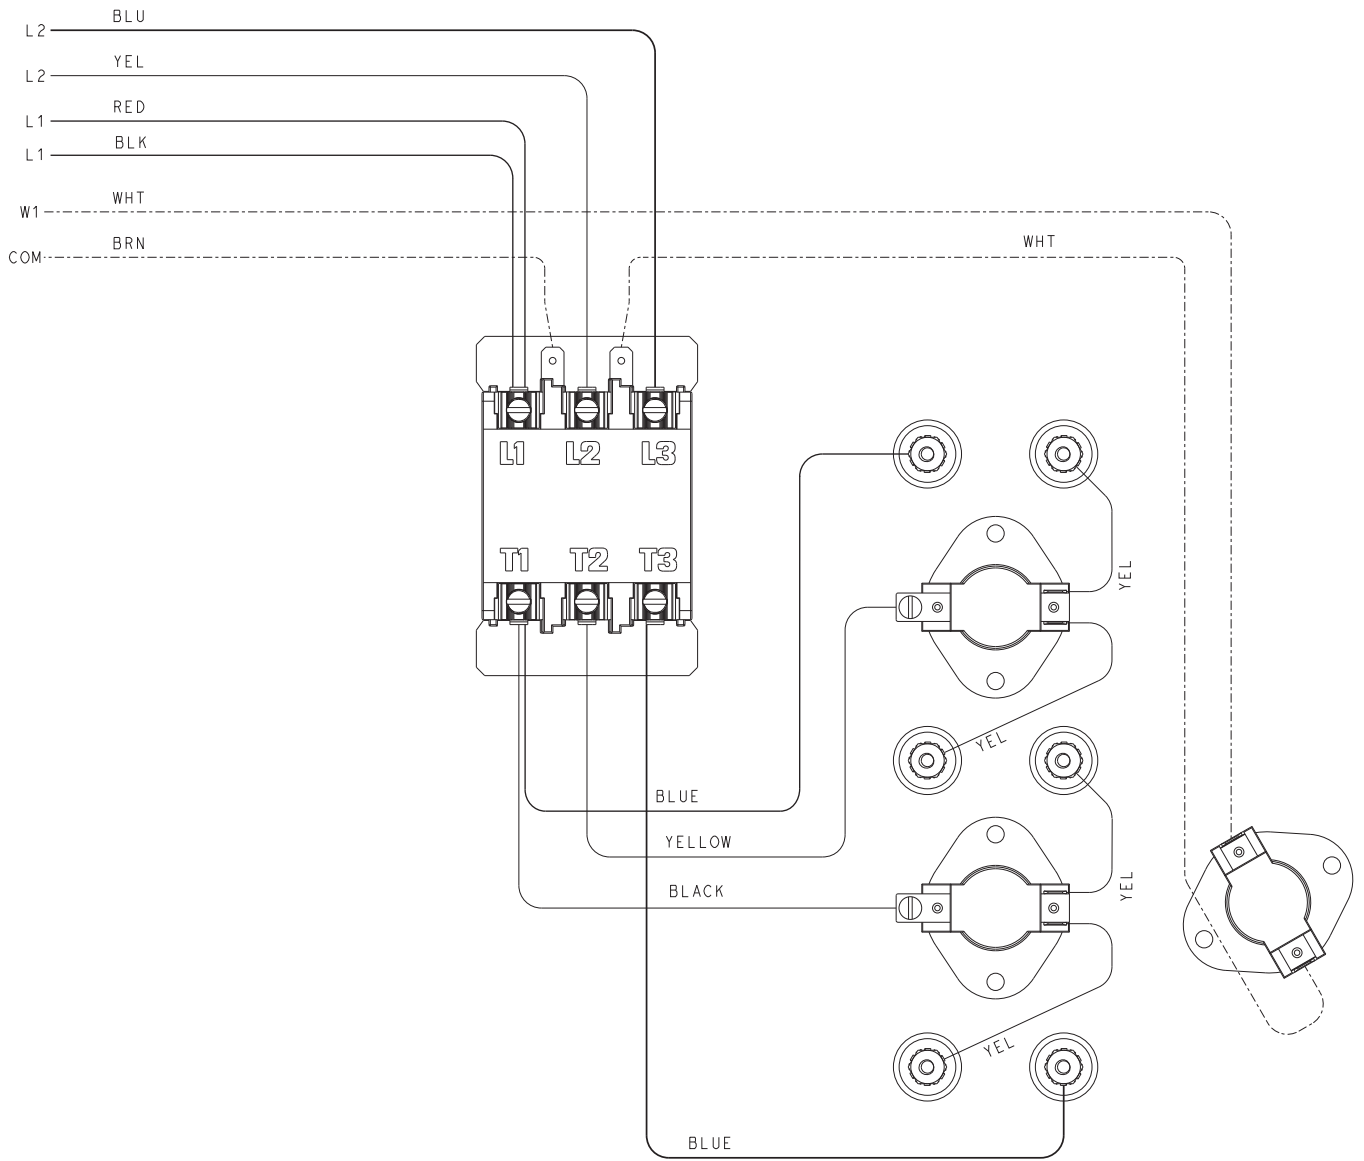

Fig. 12 — Typical Single-Phase Wiring Installed
- a. Connect RED wire provided with kit to Heater Relay (HR) and to L1 as shown.
- c. Using the wire tie provided, fasten the RED wire to heater power wire harness near existing wire tie on heater module. This provides strain relief for the RED wire. (See Fig. 12.)